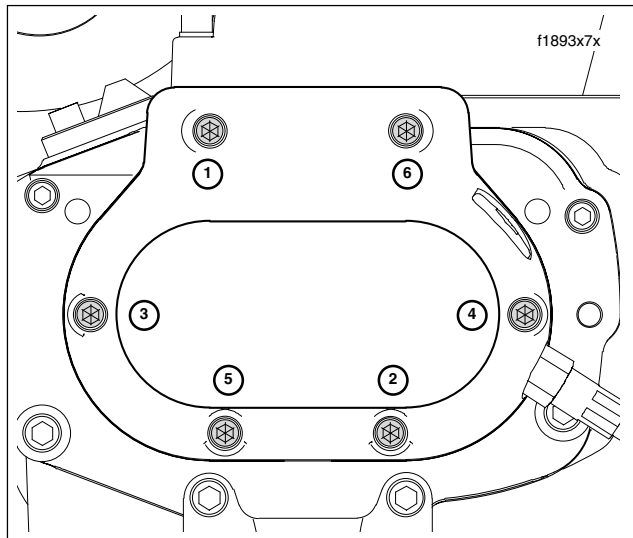

Figure 7-13. Clutch Release Cover Torque Sequence
15. Holding clutch release cover in position against transmission side door, install six socket head screws. Alternately tighten screws to 84-132 **in-lbs** (9.5-14.9 Nm) in the sequence shown in Figure 7-13.
8. Holding clutch release cover in position, install six socket head screws. Tighten screws to 84-132 **in-lbs** (9.5-14.9 Nm) in the sequence shown in Figure 7-13.